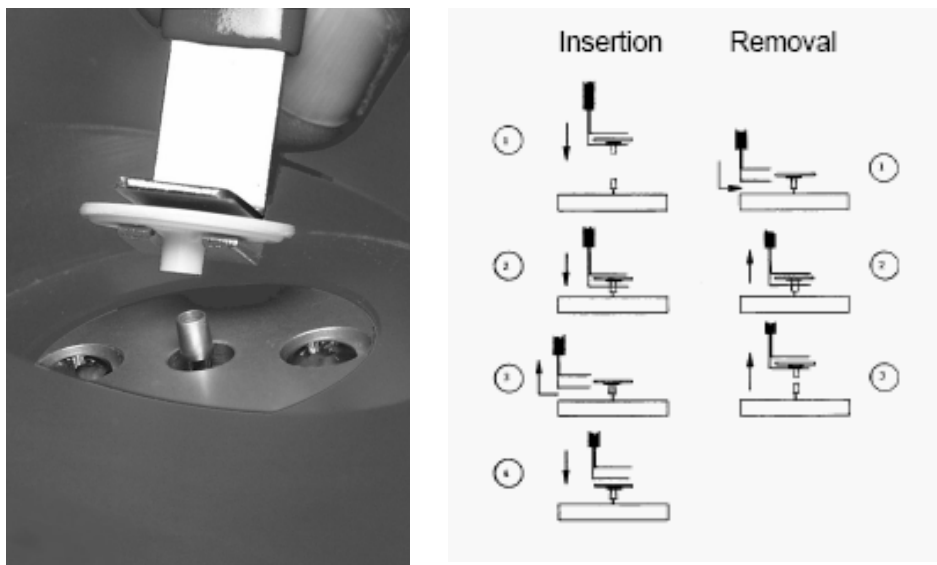

Figure 9-7. A close up of the filter element being placed on top of the tapered element (left) and steps in the filter insertion and removal process (right).
**Figure 9-7** (left) shows a close-up view of the filter element being placed on the top of the tapered element, and Figure 9-7 (right) schematically illustrates the loading steps, and unloading steps, of the sample filter cartridge in the instrument. Important considerations during the filter handling process include